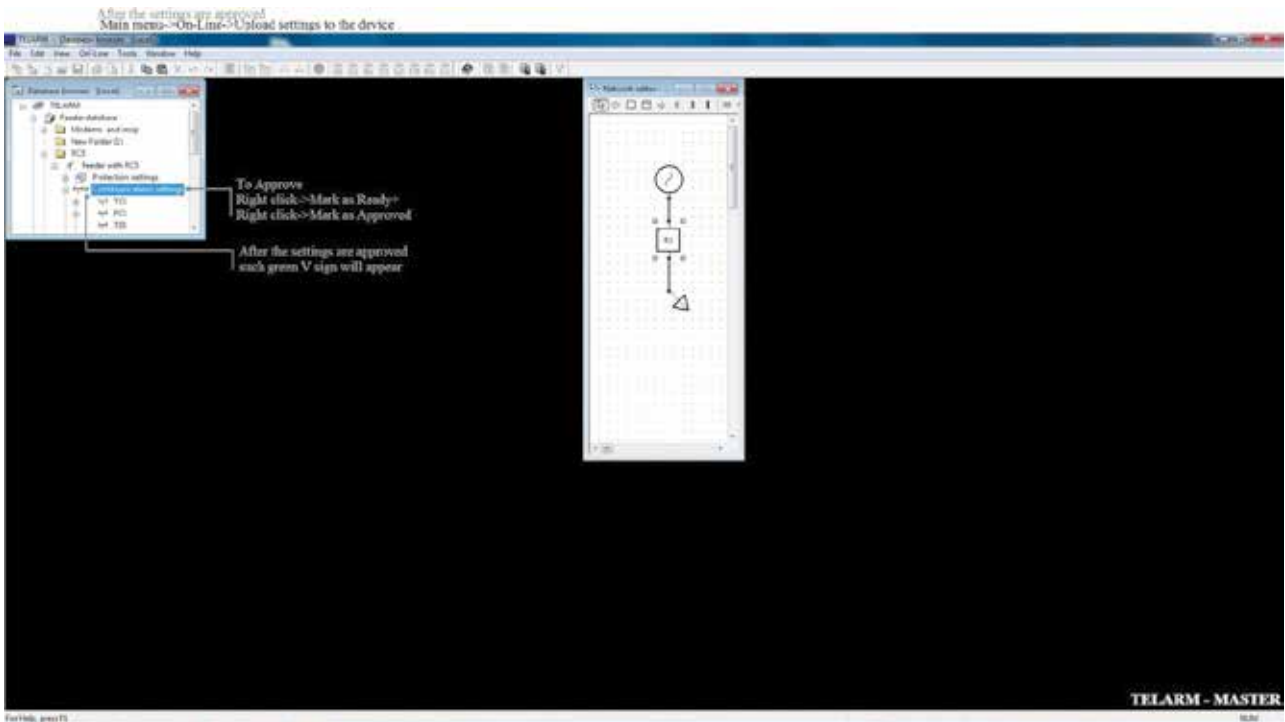

Figure 47
- Right click on the submenu Communication settings in Database browser and select "Mark as Ready" (Figure 47);